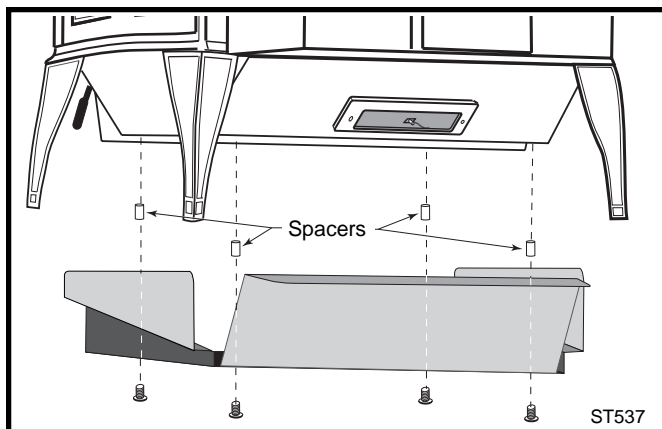

Fig. 17 Attach the optional bottom heat shield.
4. Secure the shield with the four hex head bolts removed from the stove bottom previously. Tighten securely. (Fig. 17)